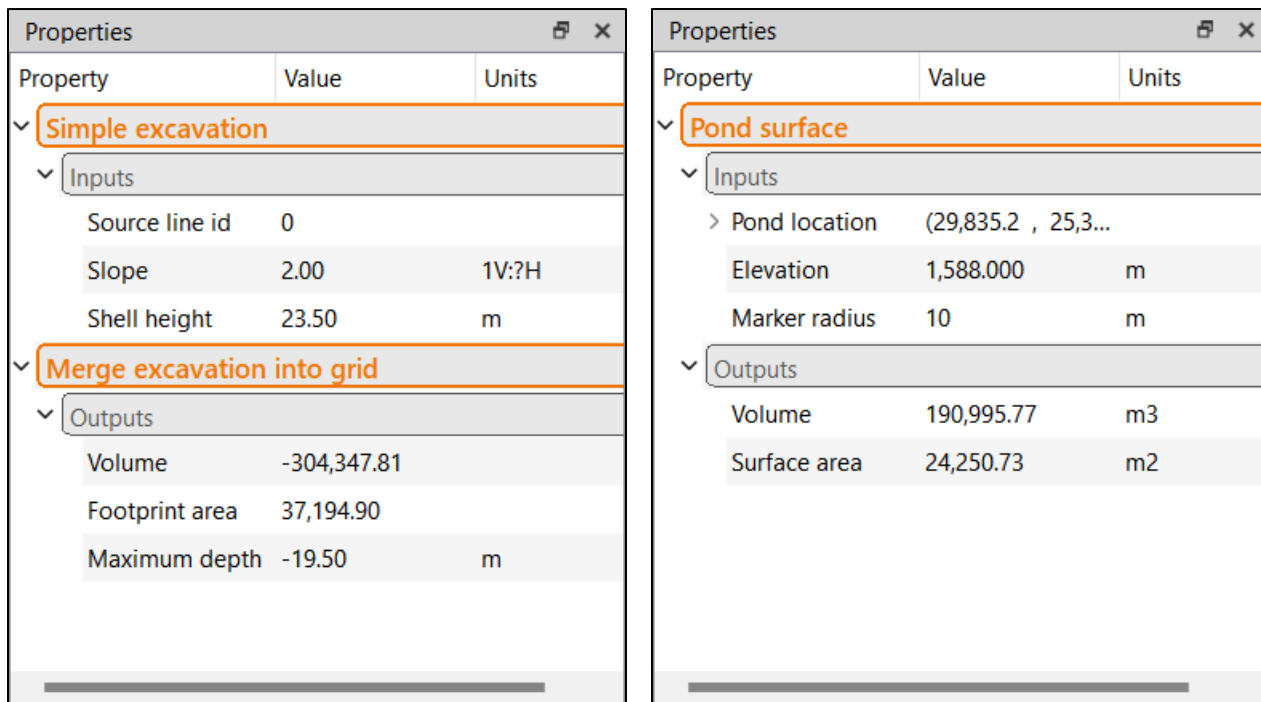

Figure 55: Final sump (left) and pond (right) properties
Select the *Sump* layer in your *Scene Manager*. Increase the *Shell Height* then select the *Pond* layer in your *Scene Manager* and verify the pond volume. Increase your sump shell height until you've reached a pond volume of ~194,000 m³. In this case, the shell height needed was 23.5m. The final sump (left) and pond (right) properties can be seen in figure 55 below. Make sure to save the sump and pond files.
- ⇒ Additionally, the topsoil will need to be stripped from the sump and ditch footprints outlined in the section above. From figure 55 and 61 respectively, that a total of:
- ⇒ From figures 55 and 61, we can see the total excavation volume for the sump and ditch are 304,348 m³ and 6,088 m³ respectively.